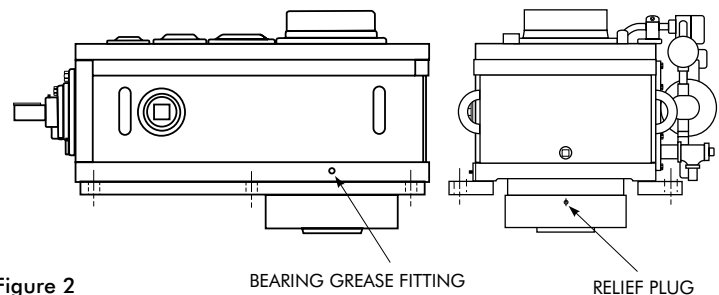

Figure 2
**HOLLOW SHAFT DRIVES** — Remove the pressure relief plug before greasing. Pump grease into bearing cage until fresh grease appears at the plug. Replace the pressure relief plug when finished. See Figure 2 below.